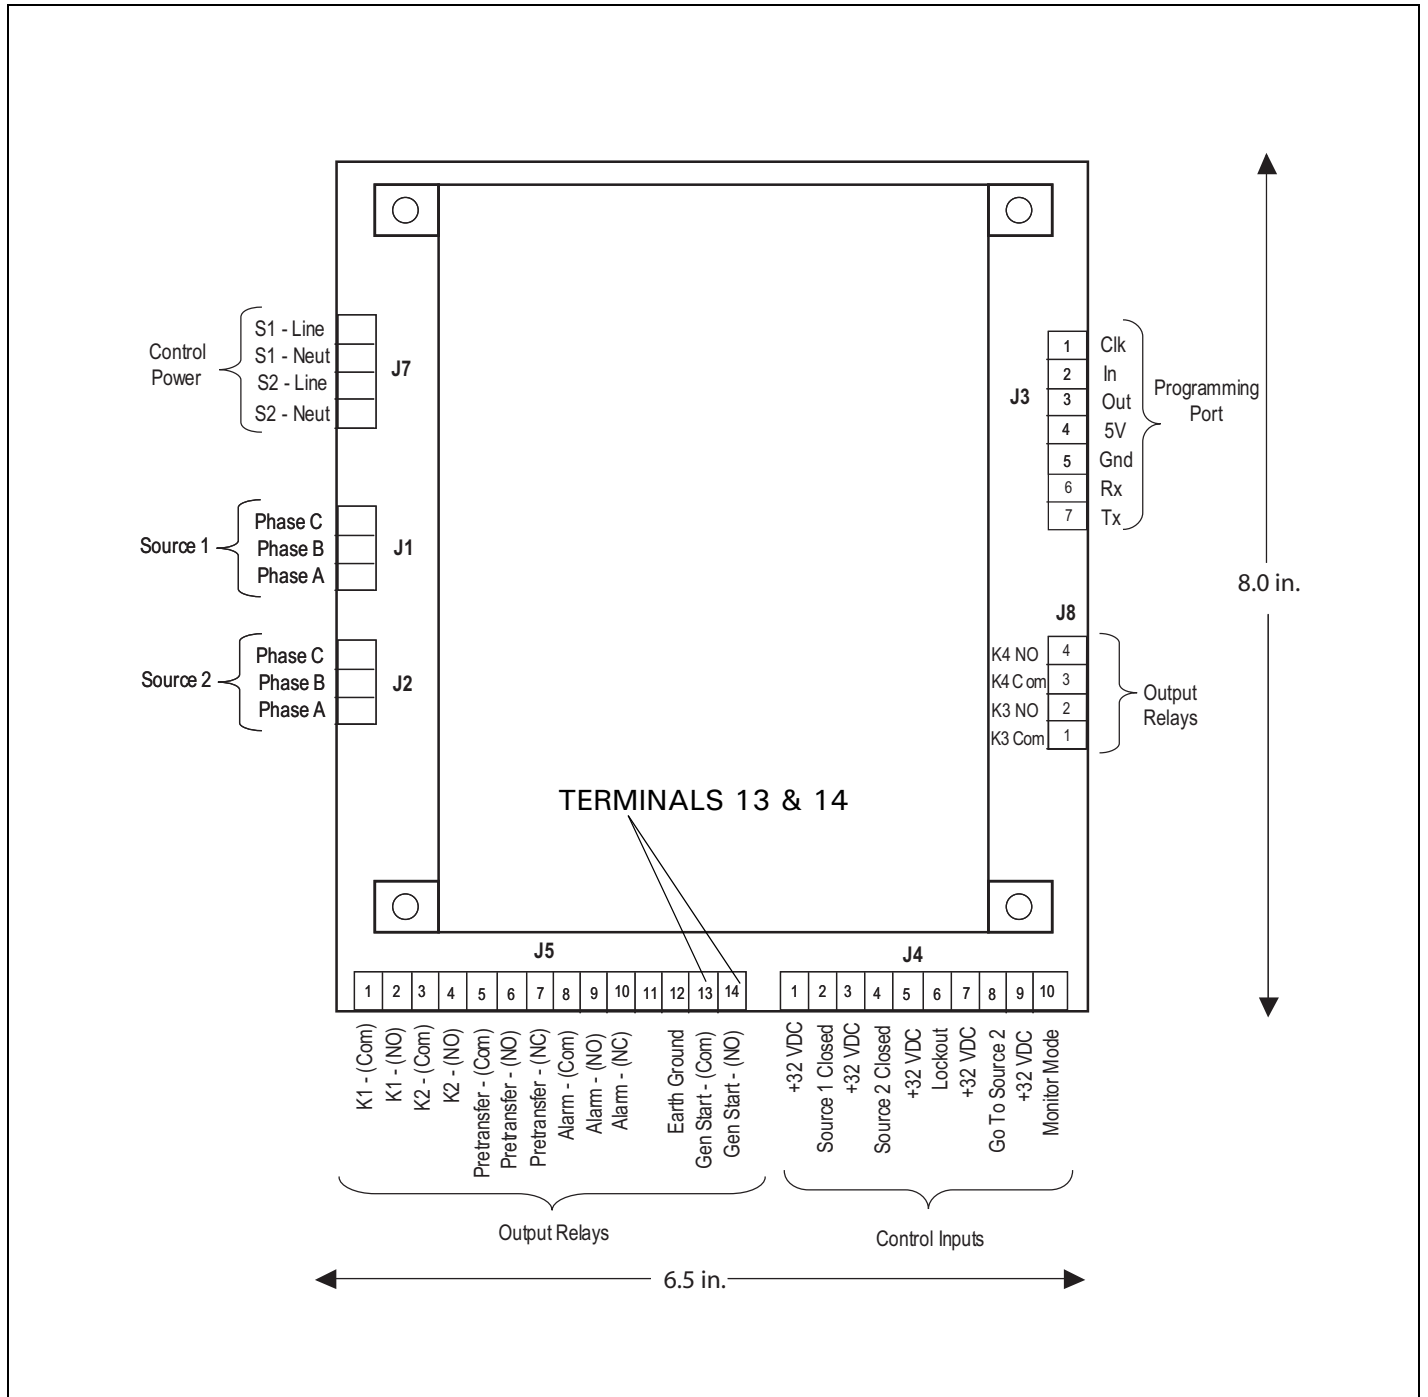

Figure 40. Engine Generator Control Connection
- Step 4:** Connect the Engine Generator Start wires to terminals 13 and 14 on the J-5 connector on the ATC-300 Controller (Figure 40). This contact is CLOSED whenever the engine generator is needed, and should be connected to a generator controller. **NEVER** connect directly to a starter solenoid or ignition system. See the Genset manufacturer instruction leaflet for recommended wire sizes and location procedures.